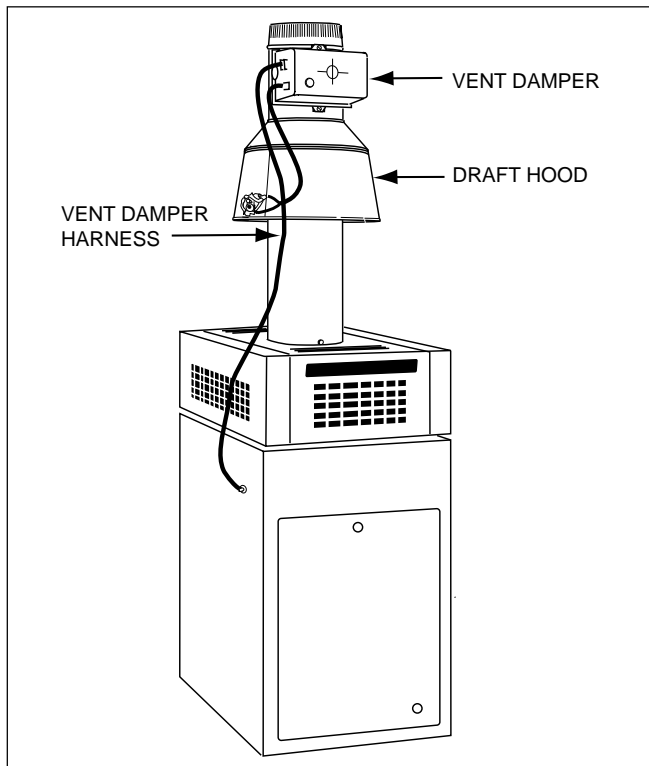

Figure 8. Vent Damper Installation (Models 175 and 250 only).
- f. Find the vent damper box which is located in the boiler package (boiler models 175 to 250 only) (see Figure 8).